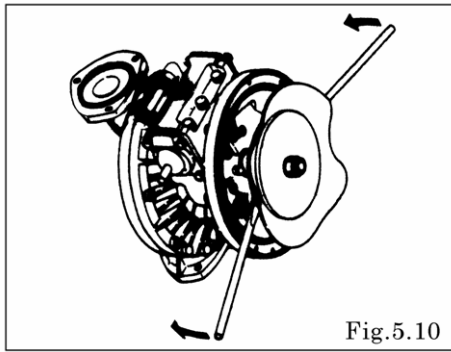

Fig.5.10
- Grip the inside center disk using crowbars and draw it to the opposite side, then turn the diaphragm over. (exclude B\_H, B\_S type) [Fig. 5.10, 5.11]